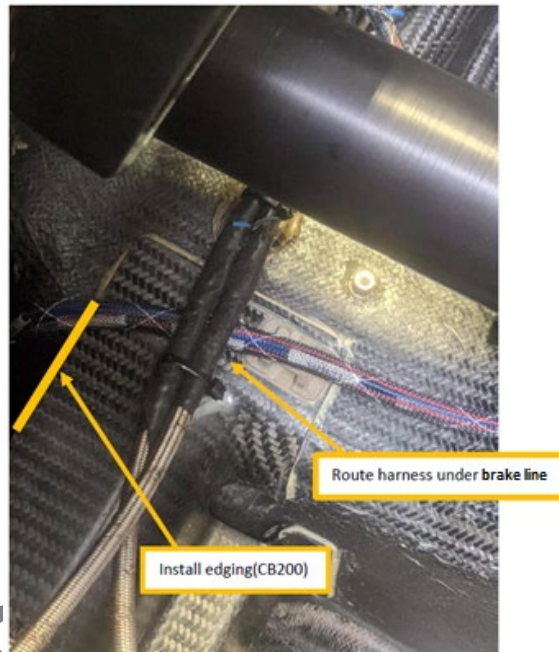

Figure 11. Harness routing and edging
15. (1.0 config only) Install edging (MS21266-1N Grommet Edging)) with CB200 at location shown in **Figure 11** and route harness as shown.